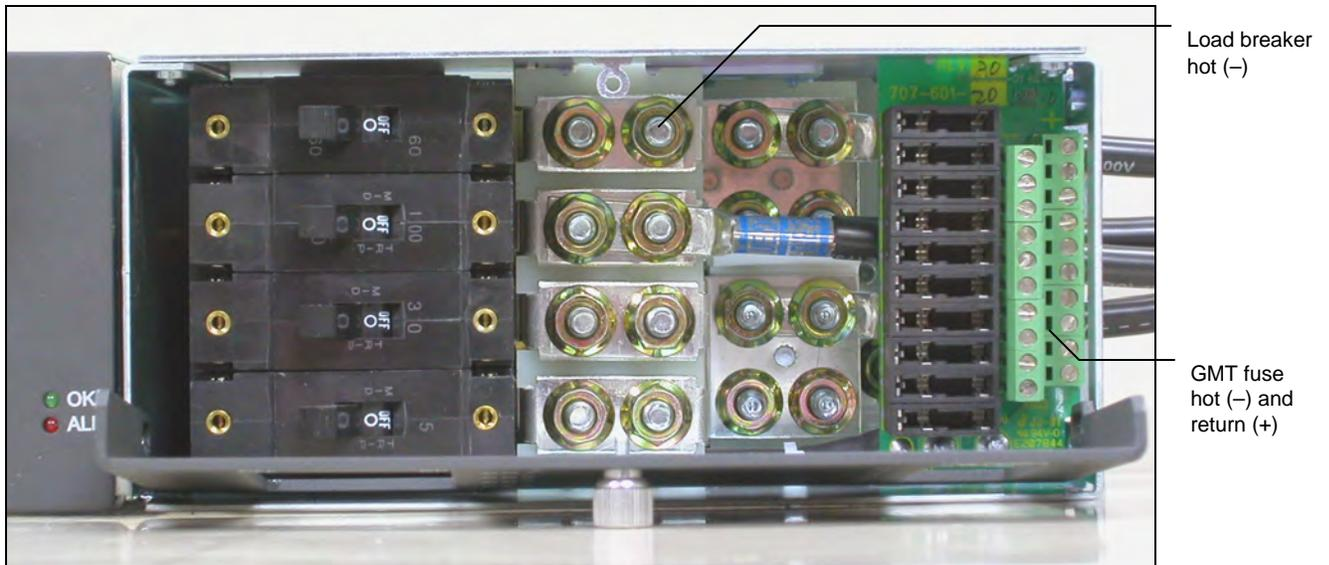

Figure 10—Front view of distribution module (cover removed)
Connect to the four load breaker hot (-) termination pairs using 1/4" on 5/8" center lugs (Figure 10).
The ten (10) GMT-style fuses and the associated control terminal blocks are accessible from the front panel of the distribution module (Figure 10).